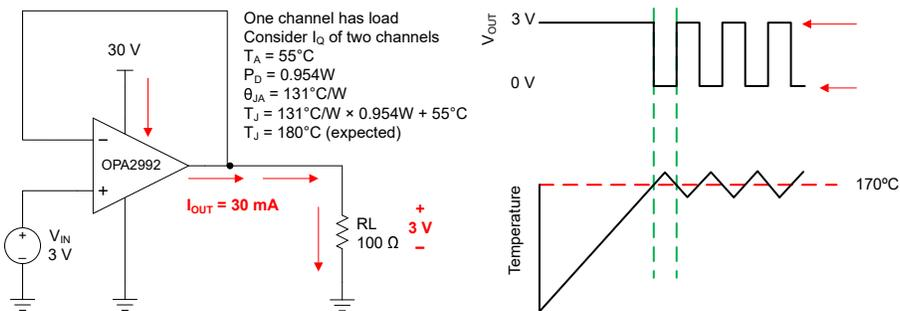

图 7-4. Thermal Protection
The internal power dissipation of any amplifier causes its internal (junction) temperature to rise. This phenomenon is called *self heating*. The absolute maximum junction temperature of the OPAx992 is 150°C. Exceeding this temperature causes damage to the device. The OPAx992 has a thermal protection feature that reduces damage from self heating. The protection works by monitoring the temperature of the device and turning off the op amp output drive for temperatures above 170°C. 图 7-4 shows an application example for the OPA2992 that has significant self heating because of its power dissipation (0.954 W). In this example, both channels have a quiescent power dissipation while one of the channels has a significant load. Thermal calculations indicate that for an ambient temperature of 55°C, the device junction temperature reaches 180°C. The actual device, however, turns off the output drive to recover towards a safe junction temperature. 图 7-4 shows how the circuit behaves during thermal protection. During normal operation, the device acts as a buffer so the output is 3 V. When self heating causes the device junction temperature to increase above the internal limit, the thermal protection forces the output to a high-impedance state and the output is pulled to ground through resistor R_L . If the condition that caused excessive power dissipation is not removed, the amplifier will oscillate between a shutdown and enabled state until the output fault is corrected. Please note that thermal performance can vary greatly depending on the package selected and the PCB layout design. This example uses the thermal performance of the SOIC (8) package.